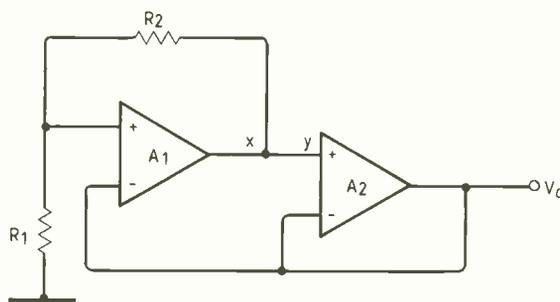

Fig.1. Active-R oscillator circuit. Frequency can be adjusted conveniently by replacing R_1 with a j-fet and varying its gate-to-source voltage.
Fig.1. D.c. amplifier block diagram, in which I_{in} is the input current; R_f the input resistor; R_m a range-multiplier resistor; R_1 the internal resistance of the meter; and V_m the range voltage. The meter can be replaced by a resistor terminating the input to a d.p.m., simplifying range switching.
The circuit is shown in Fig.1. Let the open-loop gain of the operational amplifiers be represented by the two-pole model given by
For the circuit of Fig.1. to produce and sustain oscillations, the transfer function of (2) must be equal to unity, giving
Fig.2. Output waveform at 250kHz of the circuit in Fig.1 with a j-fet replacing R_1 ; V_{GS} of the j-fet is $-1.5V$, R_2 is $3.3k\Omega$ and the op-amp's supply is $\pm 10V$.